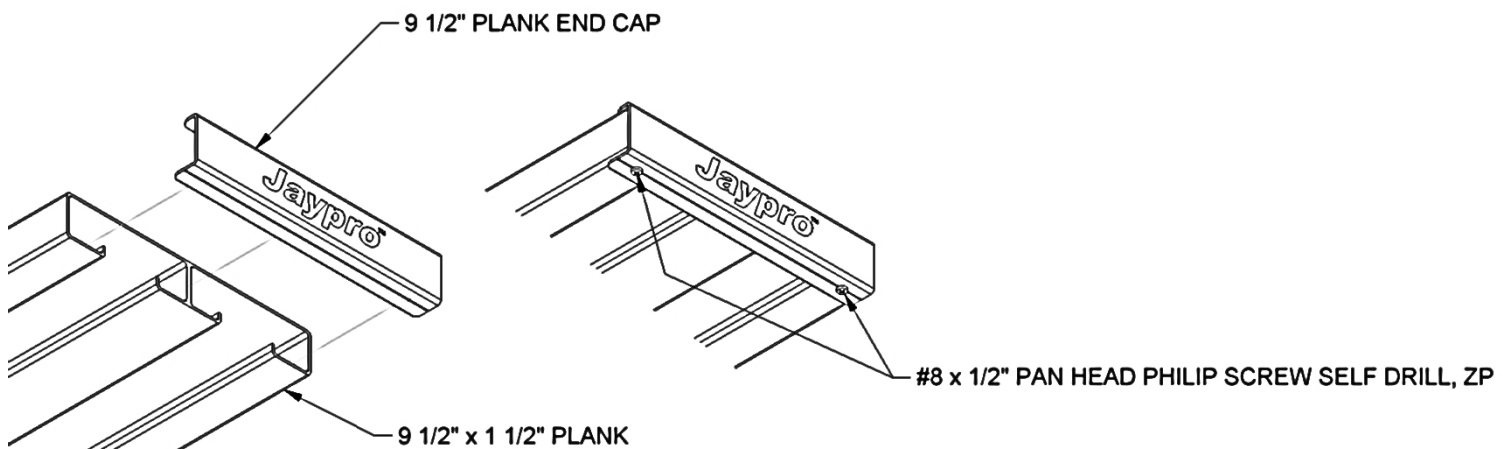

Figure 4
2. Note that the planks end cap is factory installed. If yours comes bare, cap and drill two #8 pan head Philip screw into both ends of plank (Figure 4).